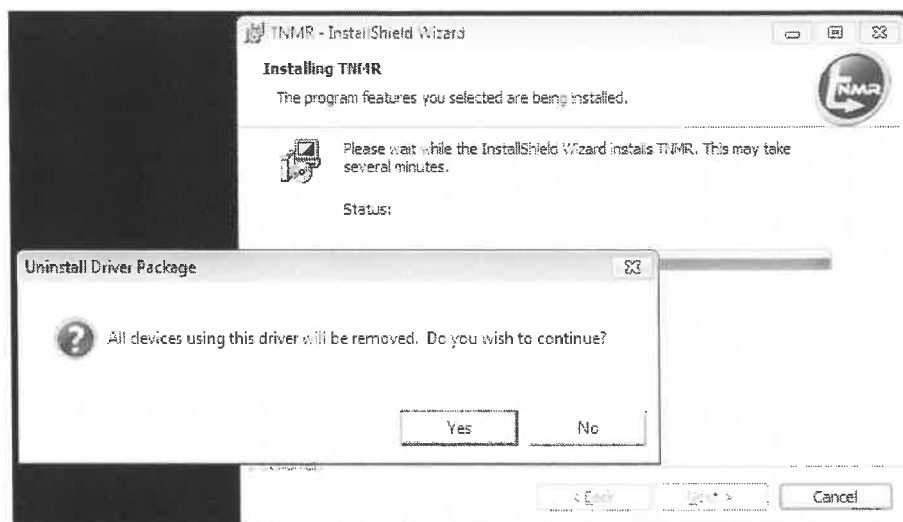

Figure 13
13. If prompted to uninstall previous driver packages, click YES for all prompts. (See Figure 13)